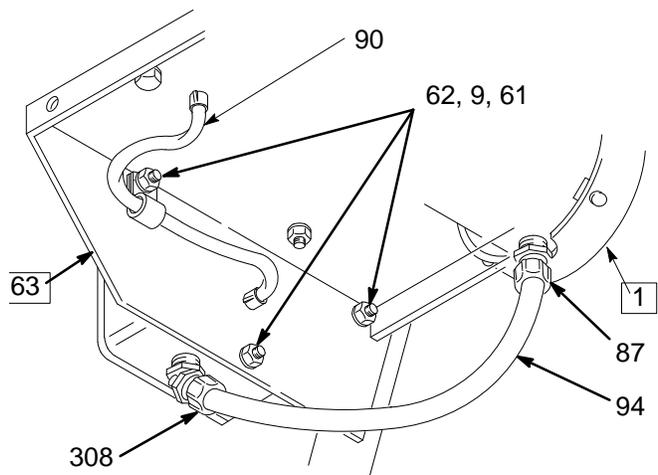

Fig. 14 VIEW FROM UNDER ENGINE MOUNTING 0490
3. Remove the three nuts (61) and lockwashers (9) from the capscrews (62). See Fig 14.
4. Unscrew the nut on the conduit elbow (308). Carefully guide the wires through the elbow as you pull the conduit (94) away from the pressure control.